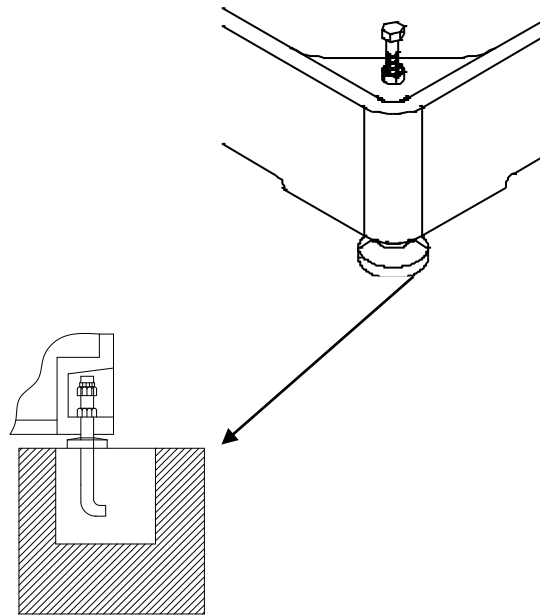

Fig. 5-1
- (1) See section 2-3 for the machine installation dimensions.
- (2) Keep away from the vibration sources such as presses, cutting machines, shapers and so on.
- (3) Keep enough space between machine and wall for repairing, cleaning and electrical box doors opening.
- (4) Keep at least 50cm away from the wall and any objects for the extreme positions in X direction.
5.2 Foundation (Fig.5-1)
- (1) The foundation must be paved 20 cm concrete with 2500 lbs. strength. The wood foundation is prohibited. If the machine is installed on second floor, the special floor strength consideration is required.
- (2) When measuring machine level, clean up table surface, put level meter on the middle of table and check the level of table front, rear, left and side sections.
- (3) When applying level adjusting pad, clean up pad bottom, place them to ground, slowly align bolts to pads (refer to Fig. 5-1) and then adjust machine level.
- (4) Fill concrete to bolt bases. Please check machine level every month after implementation for 6 to 8 months.